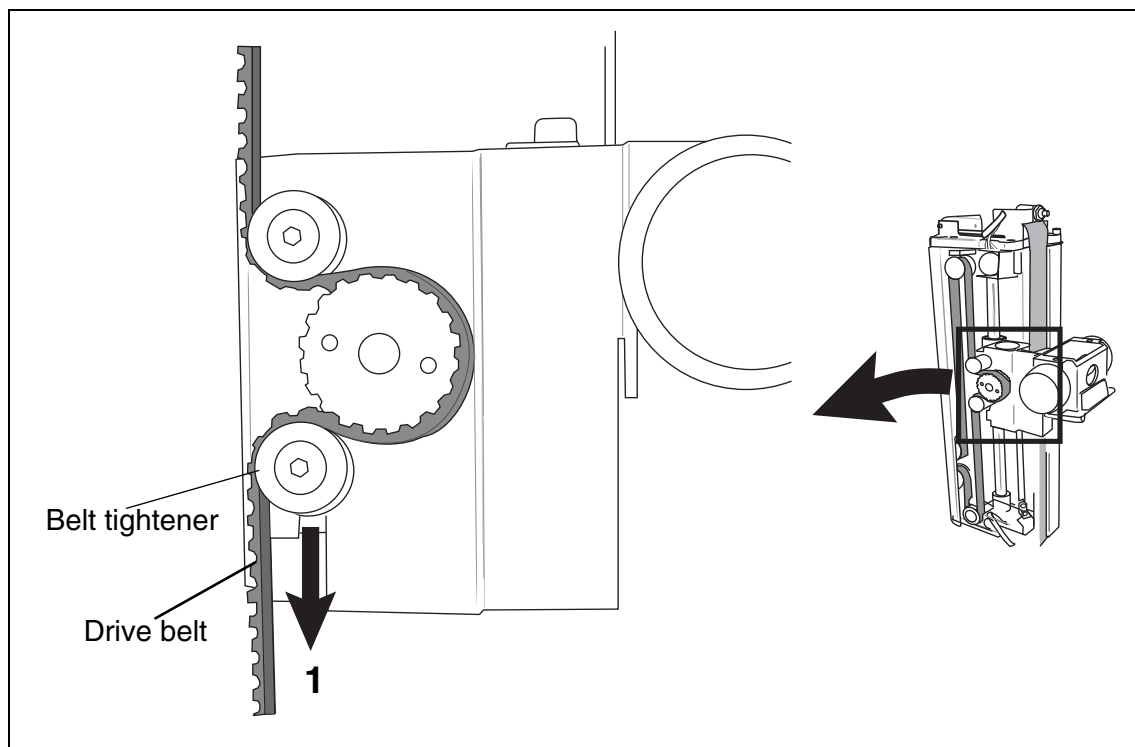

Fig. 2
- Loosen the Allen screw on the belt tightener and lower the belt tightener (1/Fig. 2).